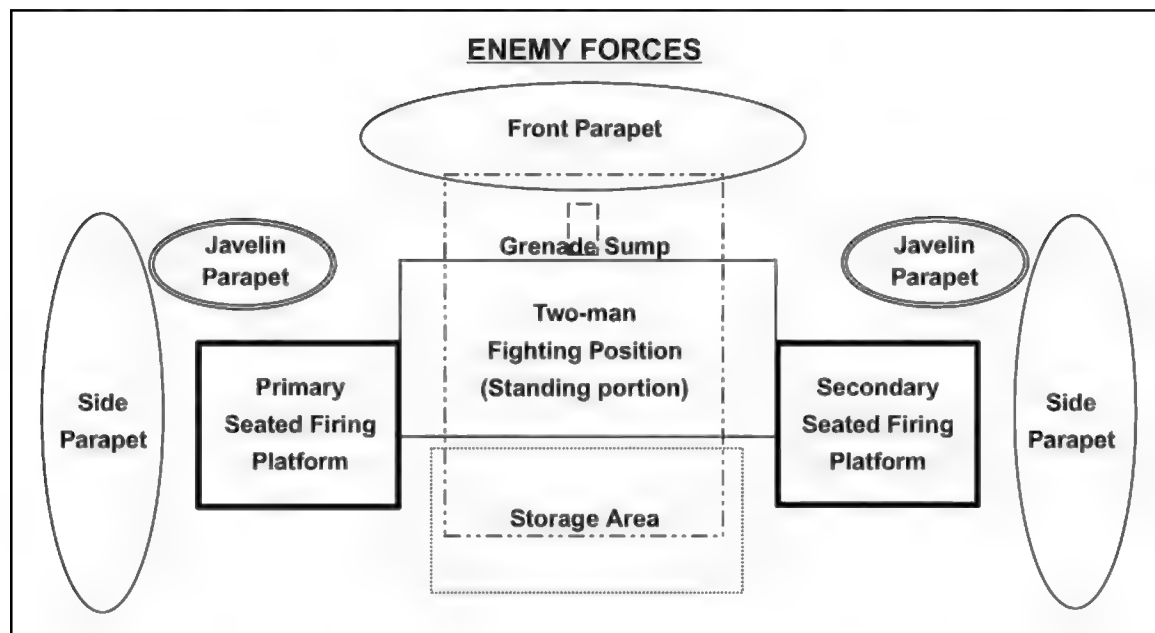

Figure 4-12. Deliberate fighting position.
(9) The standing area is about two M16A2s wide (from side-to-side) and about one and a half M16A2 rifles long (from front-to-rear) (Figure 4-12).